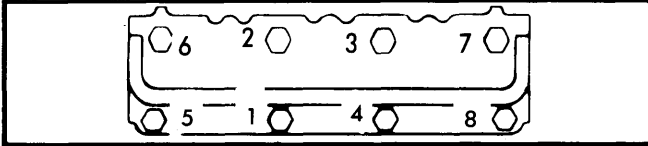

Fig. 4 Cylinder Head Tightening Sequence
2) Install gaskets with note "This Side Up" showing. Install cylinder heads, applying sealing compound to head bolt threads and tighten in sequence. See Fig. 4. Install push rods and rocker arms and adjust valves. Reverse removal procedure to complete installation.